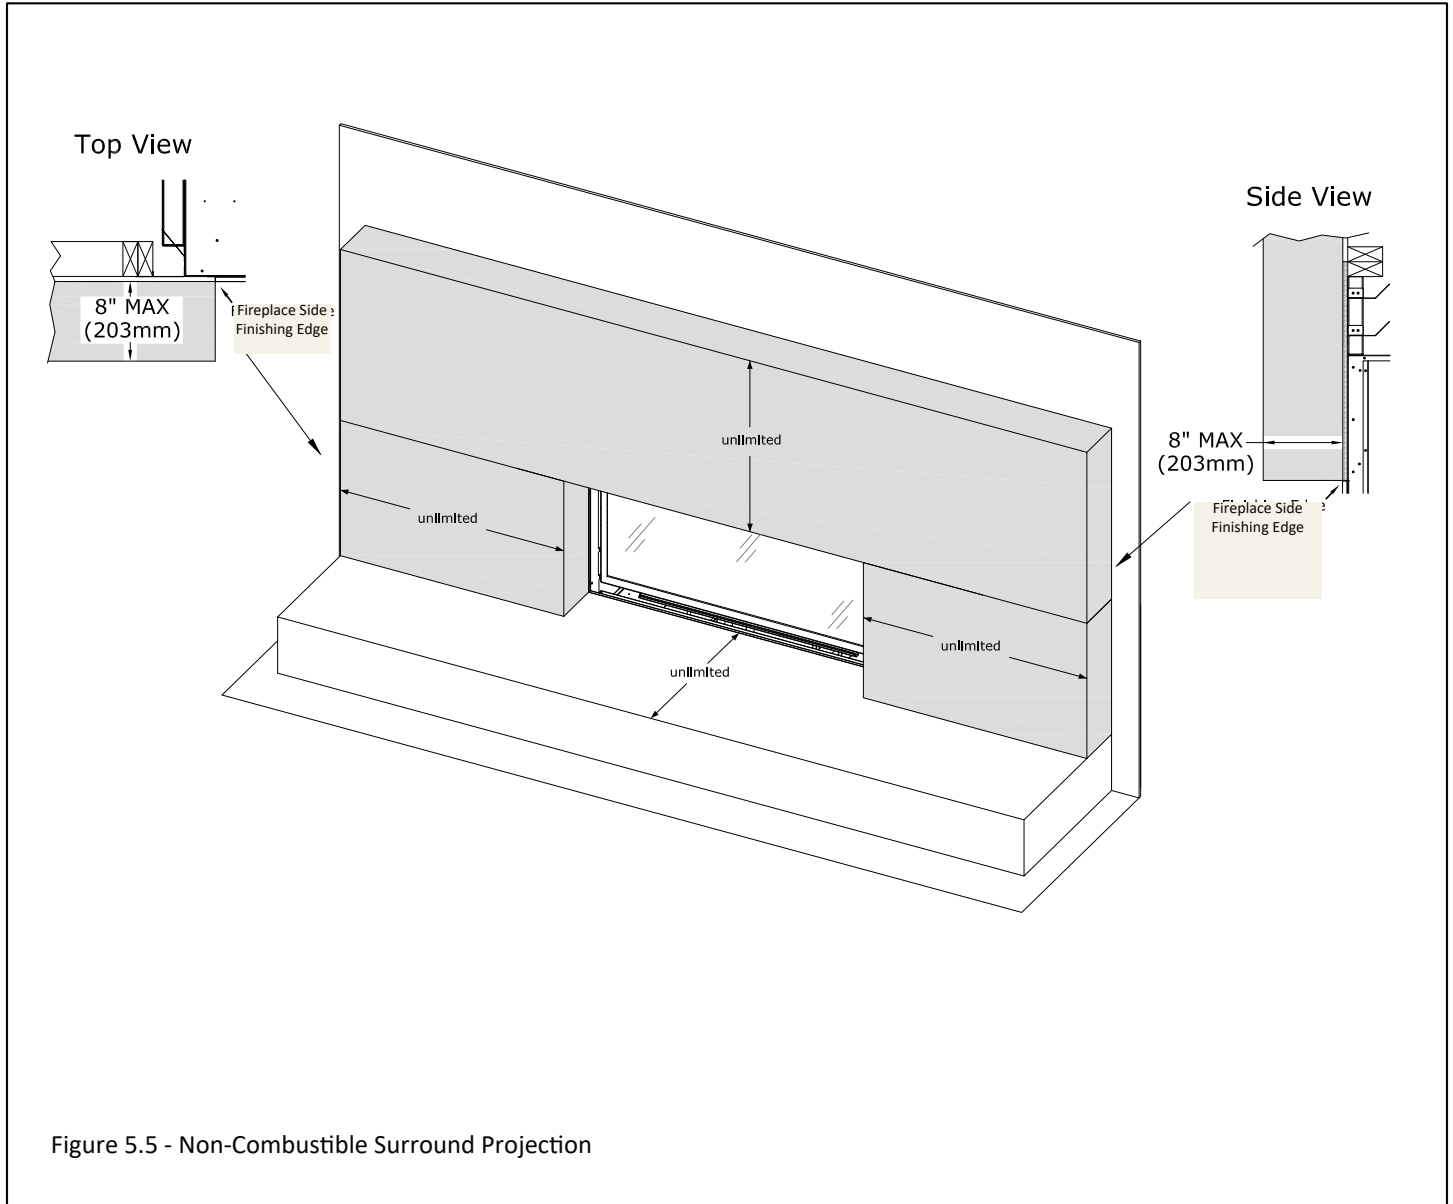

Figure 5.5 - Non-Combustible Surround Projection
- Non-combustible Surround (top and sides of fireplace opening): As referenced in Figure 5.5, the maximum projection of a 8" (203mm) non-combustible surround can be installed at 0" (0mm) from the side and top finishing edge of the fireplace.
Figure 5.5 shows that a maximum of a 8" (203mm) non-combustible surround is allowed 0" (0mm) from the fireplace finishing edge. The horizontal and vertical dimensions of the surround are unlimited. Figure 5.5 shows the allowance of an unlimited hearth extension.